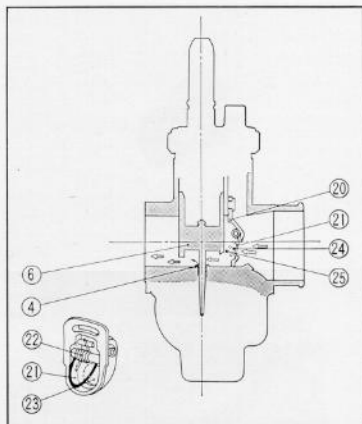

Fig. 3.117 Choke
(3) Choke
When an engine is cold or the temperature is low during starting, a rich fuel mixture is temporarily required. This can be had by the use of the choke. When the choke lever is pulled up, the choke (20) is fully closed. The opening (23) is normally closed by the relief valve (21), however, during starting when the throttle is opened approximately 1/4 and the kick starter operated, the negative pressure created in the cylinder will cause the relief valve (21) to open by the proper amount (dotted section 24) and permit air to pass through the carburetor; this flow of air draws the fuel out of the needle jet (4) to provide an air fuel mixture ideal for starting. After the engine starts, the inlet negative pressure increases, and causes the relief valve (21) to open correspondingly wider to assure a suitable mixture. Thus, the opening of the relief valve (21) changes according to the opening of the throttle valve (6), section (25). (Fig. 3.117)